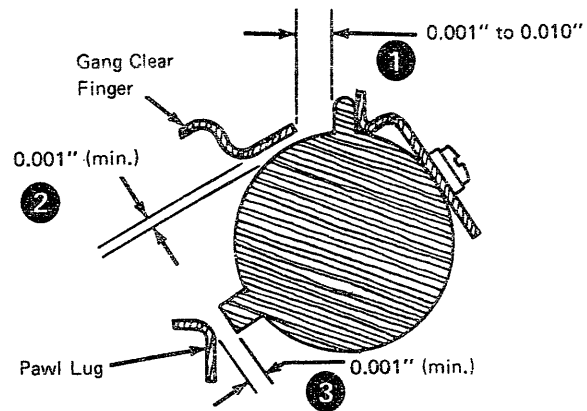

Figure 3-280. Gang Clear Finger (Spring-Detented Tabs)
4. Check for a minimum clearance of 0.001" (see No. 3, Figure 3-280) between the lugs on the rear of the escapement and backspace pawls and any set tab, when the tab rack is rotated to clear position and the pawls are removed from the rack, as in a carrier-return pawls operation. If this clearance is not present, recheck the tab-rack position and pawl-clearance adjustments.